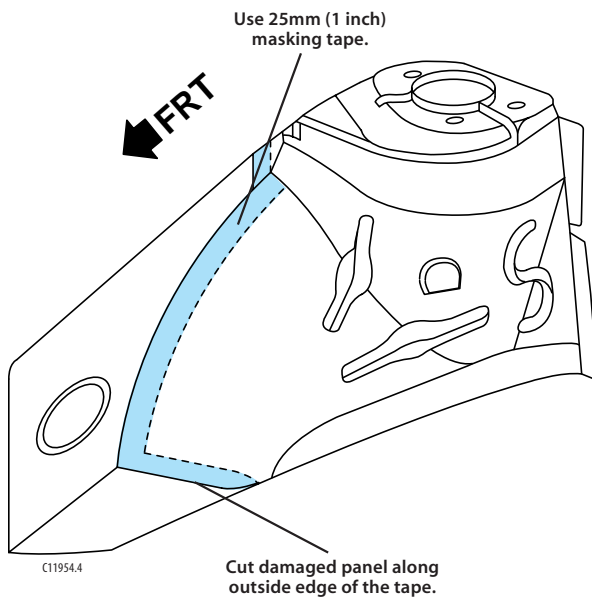

Figure 4-4:
3. Place 25mm (1 inch) wide masking tape following the forward contour of the strut tower. Cut the wheelhouse along the outside edge of the masking tape (figure 4-4).